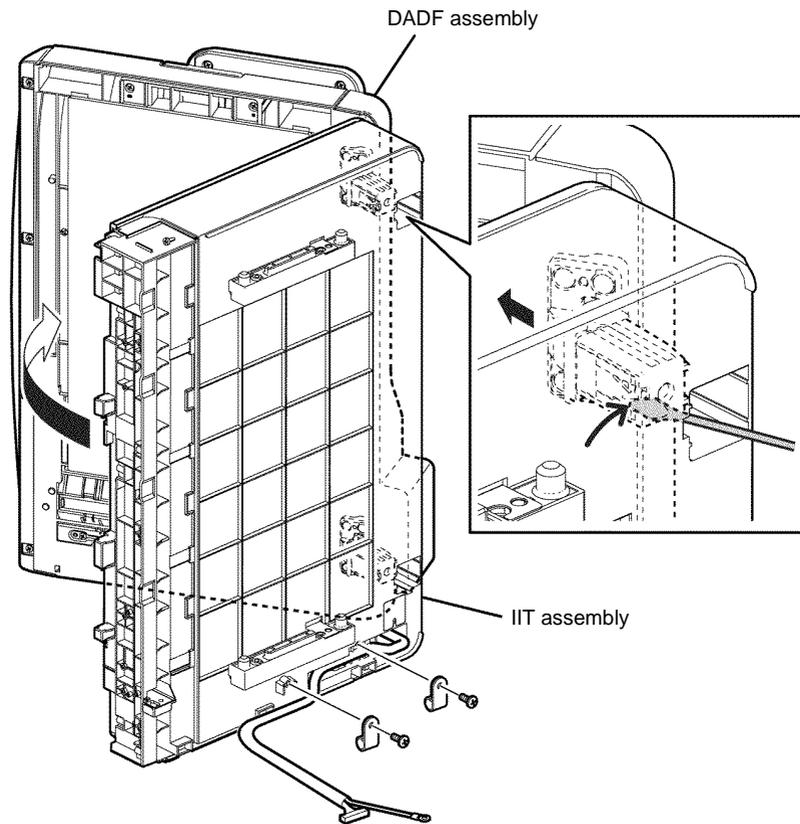

Figure 4 DADF, IIT assembly separation
15. Remove one screw (silver, tapping, 8mm) from the harness clamps, then pull the harness out of the hole in the scanner assembly, Figure 4.
16. Release the latch of the right hinge assembly, then separate the DADF assembly from the IIT assembly, Figure 4.